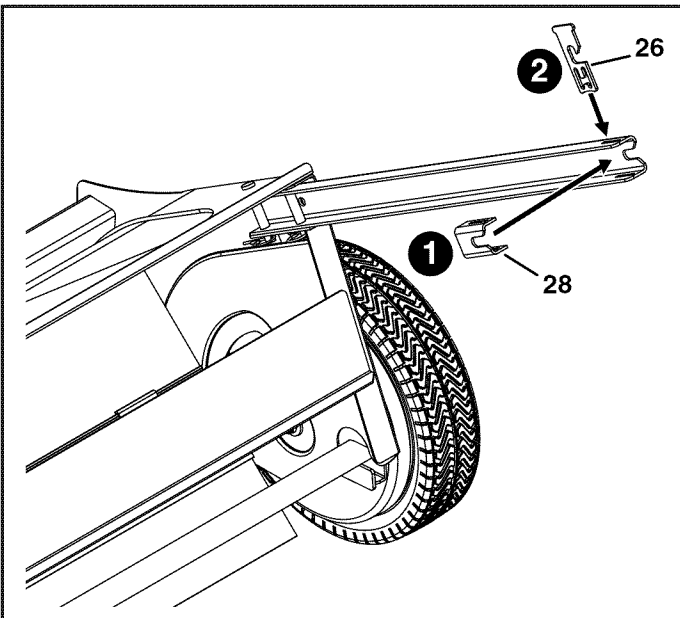

FIGURE 2
STEP 2: (SEE FIGURE 2)
- Place a pivot rod support bracket (28) in the end of a bag arm channel and then insert a pivot rod retainer (26) down into the slots in the bracket and the channel. Repeat for the other bag arm channel.